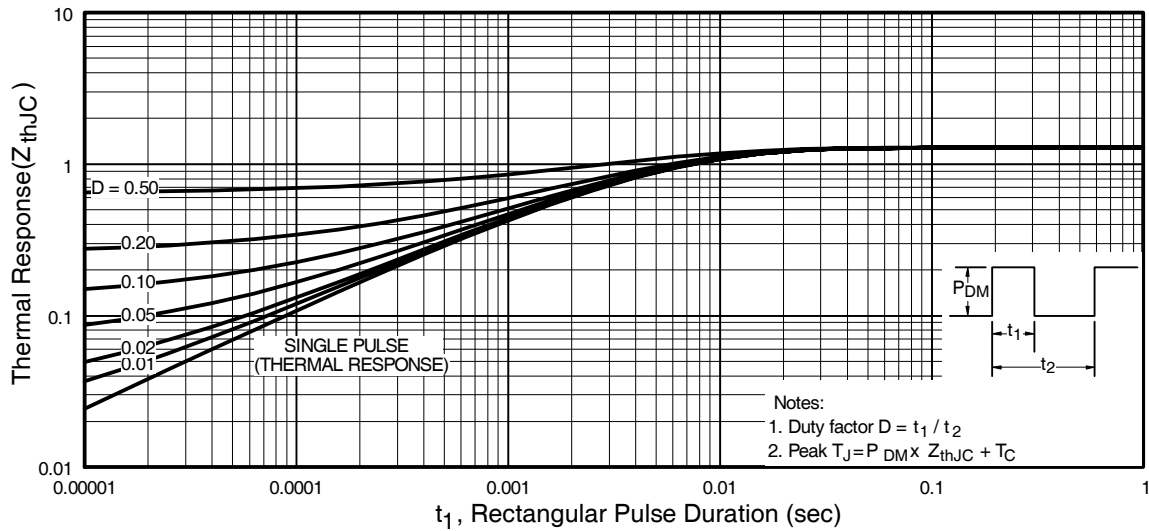

Fig 11. Maximum Effective Transient Thermal Impedance, Junction-to-Case
① Repetitive rating; pulse width limited by max. junction temperature. (See fig. 11)
② Starting $T_J = 25^\circ\text{C}$, $L = 89\mu H$